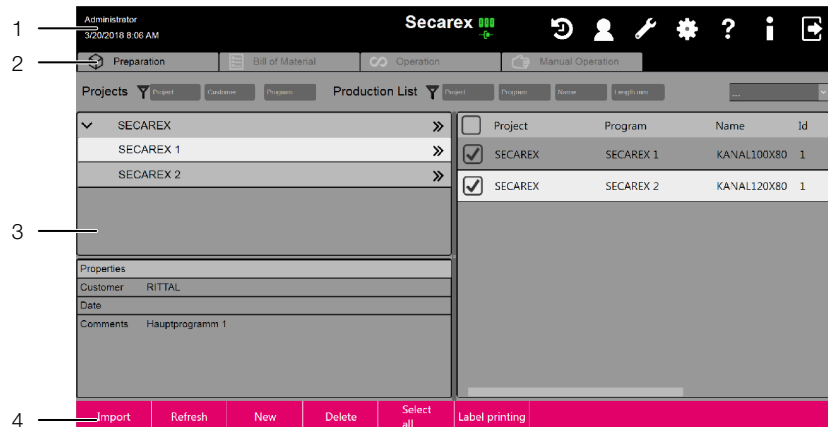

Fig. 6: Layout of the screens
Before preparing a production list, when the above-mentioned database is used, it must first be updated by pressing the "Update" button (fig. 6, item 4). Only then are all projects of the current data pool displayed in the Secarex software.